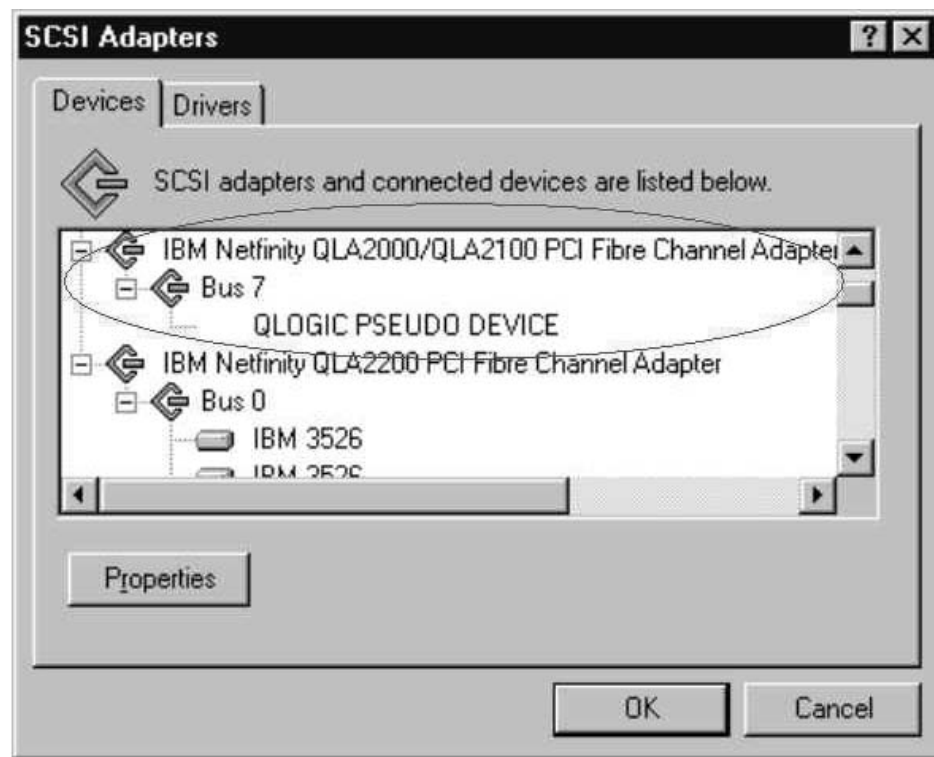

Figure 23. SCSI adapters
1. Windows NT comes up to the blue screen and reports the first two lines (version, number of processors, and amount of memory). Windows NT takes a long time to start. The SCSI Adapters applet in the Control Panel displays the window shown in Figure 23 for the 2100.